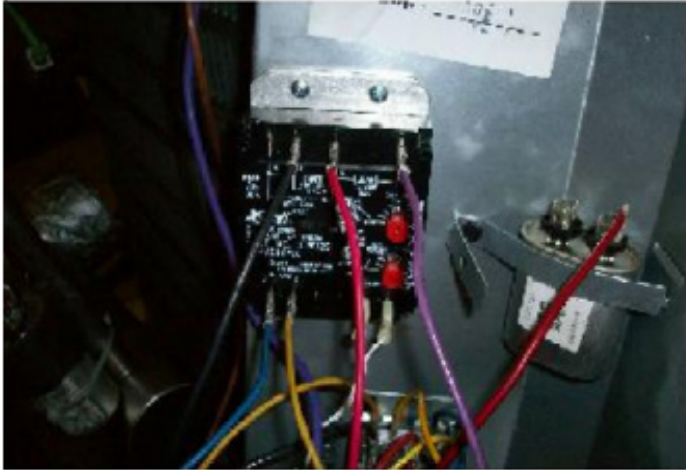

Figure 1
3. Using the screws provided, secure ICM control to the control panel. See Figure 1.